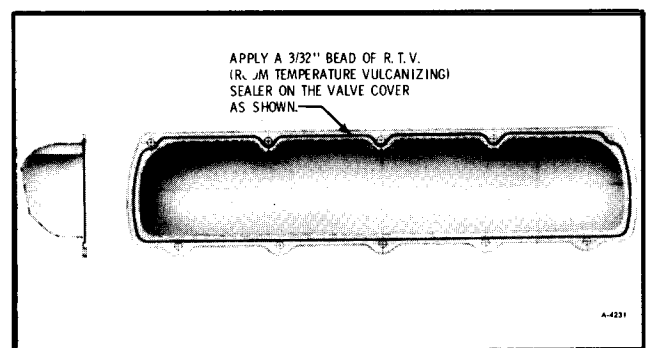

Figure 19—Applying Sealer on Valve Cover
1. Thoroughly clean the head and valve cover gasket surface. Then apply 1051435 R.T.V. (Room Temperature Vulcanizing) sealer or equivalent to the valve cover. See Figure 19.